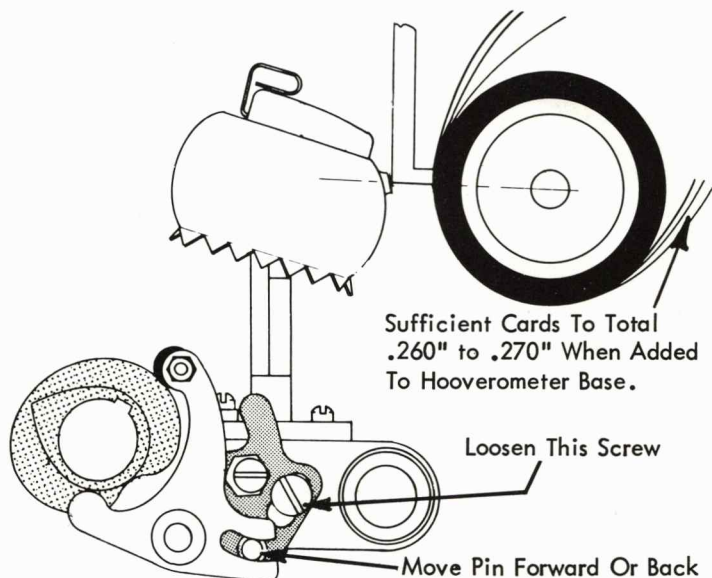

FIGURE 94. Velocity Control Plate Adjustment
- Hand-cycle the machine until the print cam follower is at the low point of the cam. This may not be at the rest position. The low point of the cam can be determined by observing the movement of the head toward the front of the machine. With the typehead at its most forward point, adjust the velocity control plate pin forward or back in the cam follower slot until a clearance of .260" to .270" exists between the center of a zero rotate, zero tilt character and the platen (Fig. 94).